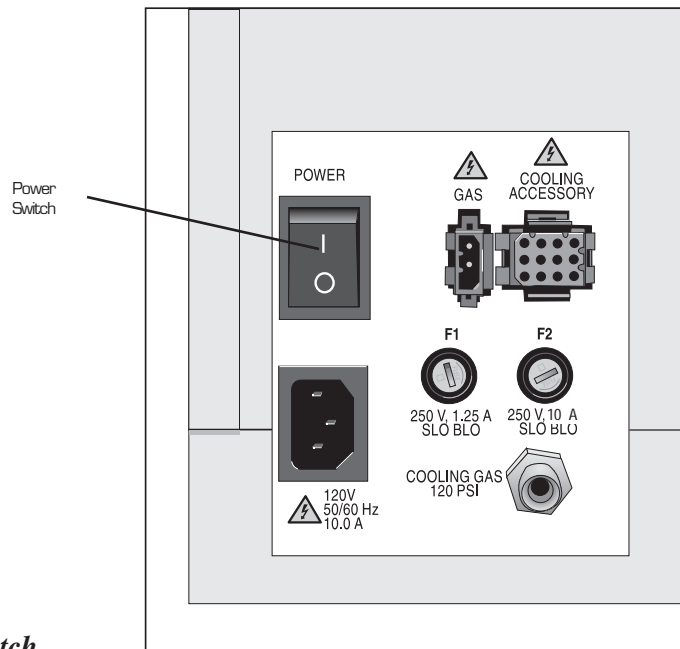

Figure 2.11
1. Make sure the TGA POWER switch, located on the back of the instrument, (Figure 2.11) is in the OFF position.